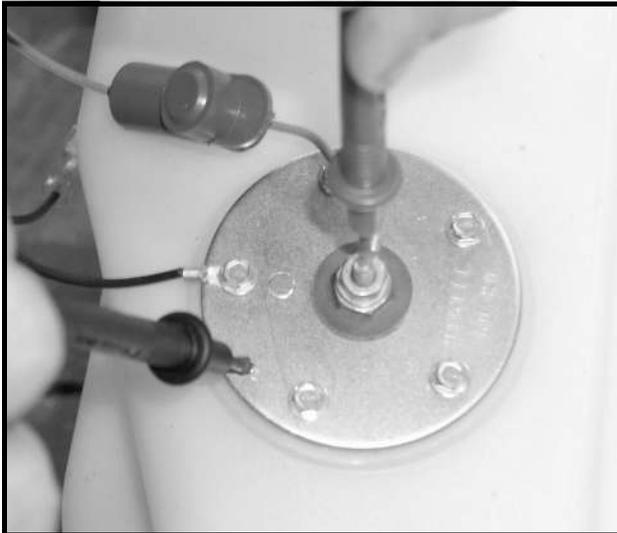

Figure 11a-27 Fuel Level Sending Unit Test
4. With a multimeter set to 2k ohms, place the red (+) probe on the center post of the sending unit. Place the black (-) probe on the ground connection of the sending unit (**Figure 11a-27, Page 11a-33**).